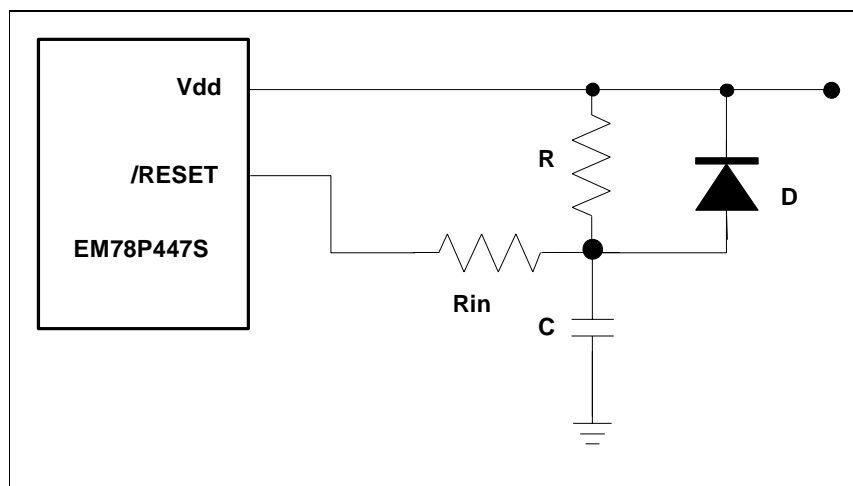

Fig. 13 External Power-Up Reset Circuit
The circuit shown in Fig.13 implements an external RC to produce the reset pulse. The pulse width (time constant) should be kept long enough for V_{DD} to reach minimum operation voltage. This circuit is used when the power supply has slow rise time. Because the current leakage from the /RESET pin is about $\pm 5\mu\text{A}$, it is recommended that R should not be greater than 40 K Ω . In this way, the /RESET pin voltage is held below 0.2V. The diode (D) acts as a short circuit at the moment of power down. The capacitor C will discharge rapidly and fully. R_{in}, the current-limited resistor, will prevent high current or ESD (electrostatic discharge) from flowing to pin /RESET.